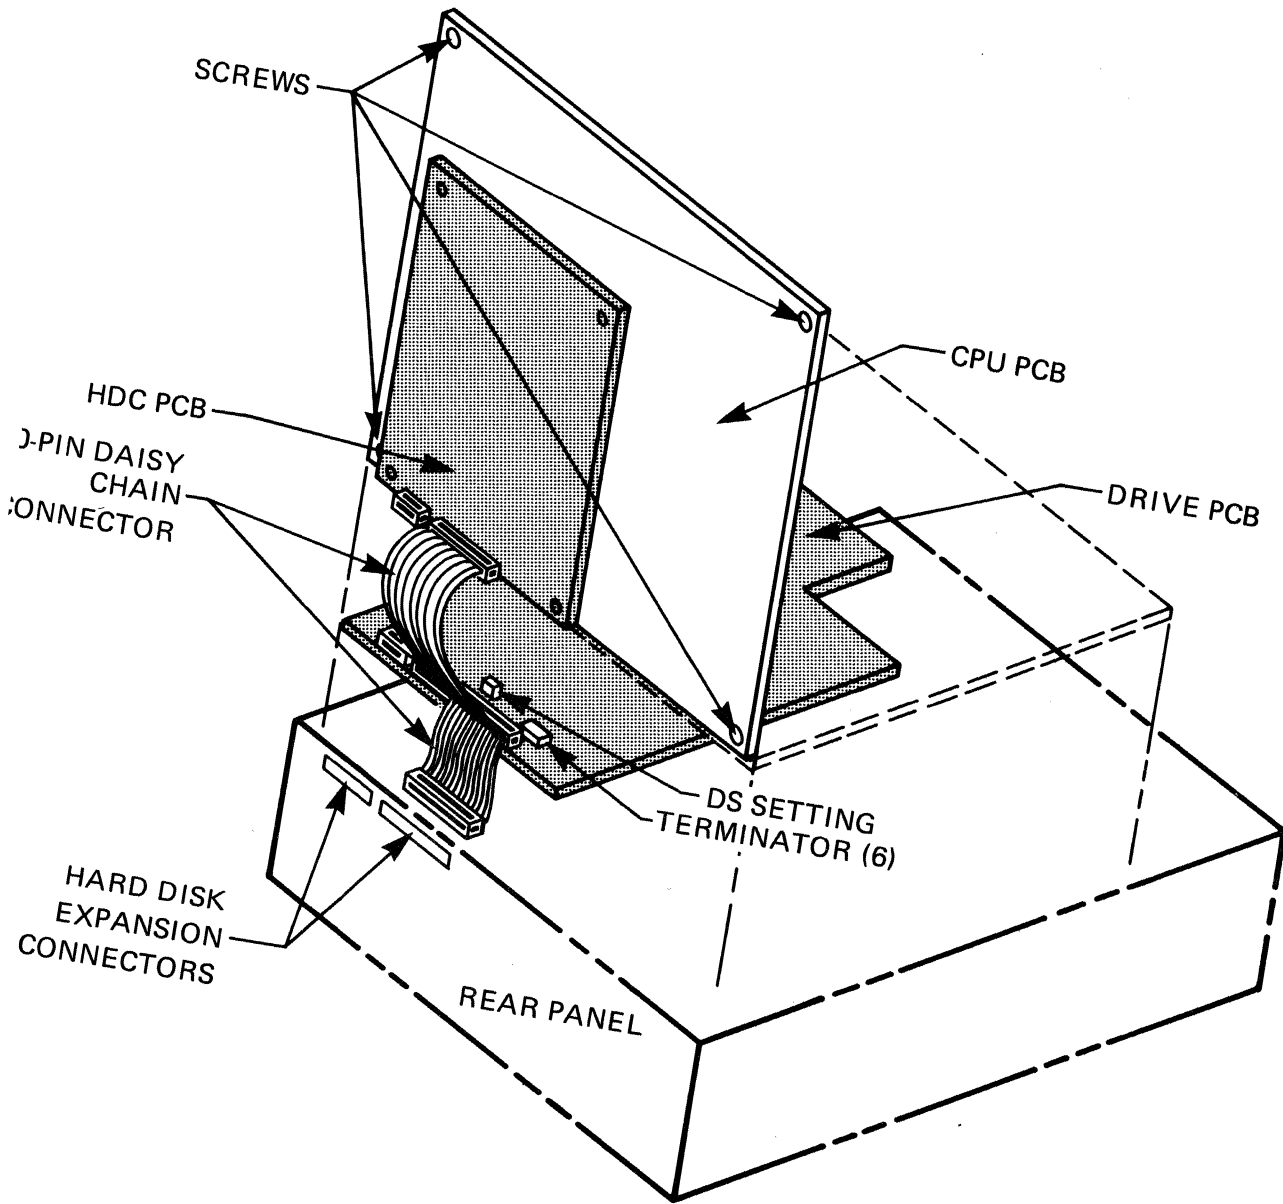

Figure 2-1. Main Chassis Disassembly and Cabling
5. Use a flat blade screwdriver to loosen the four captive screws that secure the hinged CPU assembly to the chassis. Refer to figure 2-1 and raise the CPU assembly (includes CPU board, EMI tray, and side brackets) and lock it into an upright position.
9. If it is necessary to replace the flat cable, then refer to figure 2-1 and gently pull the connector from the Drive PCB, being careful to support the board with your fingers to prevent warping. Lower the CPU Assembly to its normal horizontal position. It is necessary to lift up on the assembly to release it from its latched position.
12. Install the new flat cable into the vacant connector slot (see figure 2-1), ensuring that the broad side of the D connector faces down. Use the standoffs and nuts that were removed in the previous step. Remove the tissue.